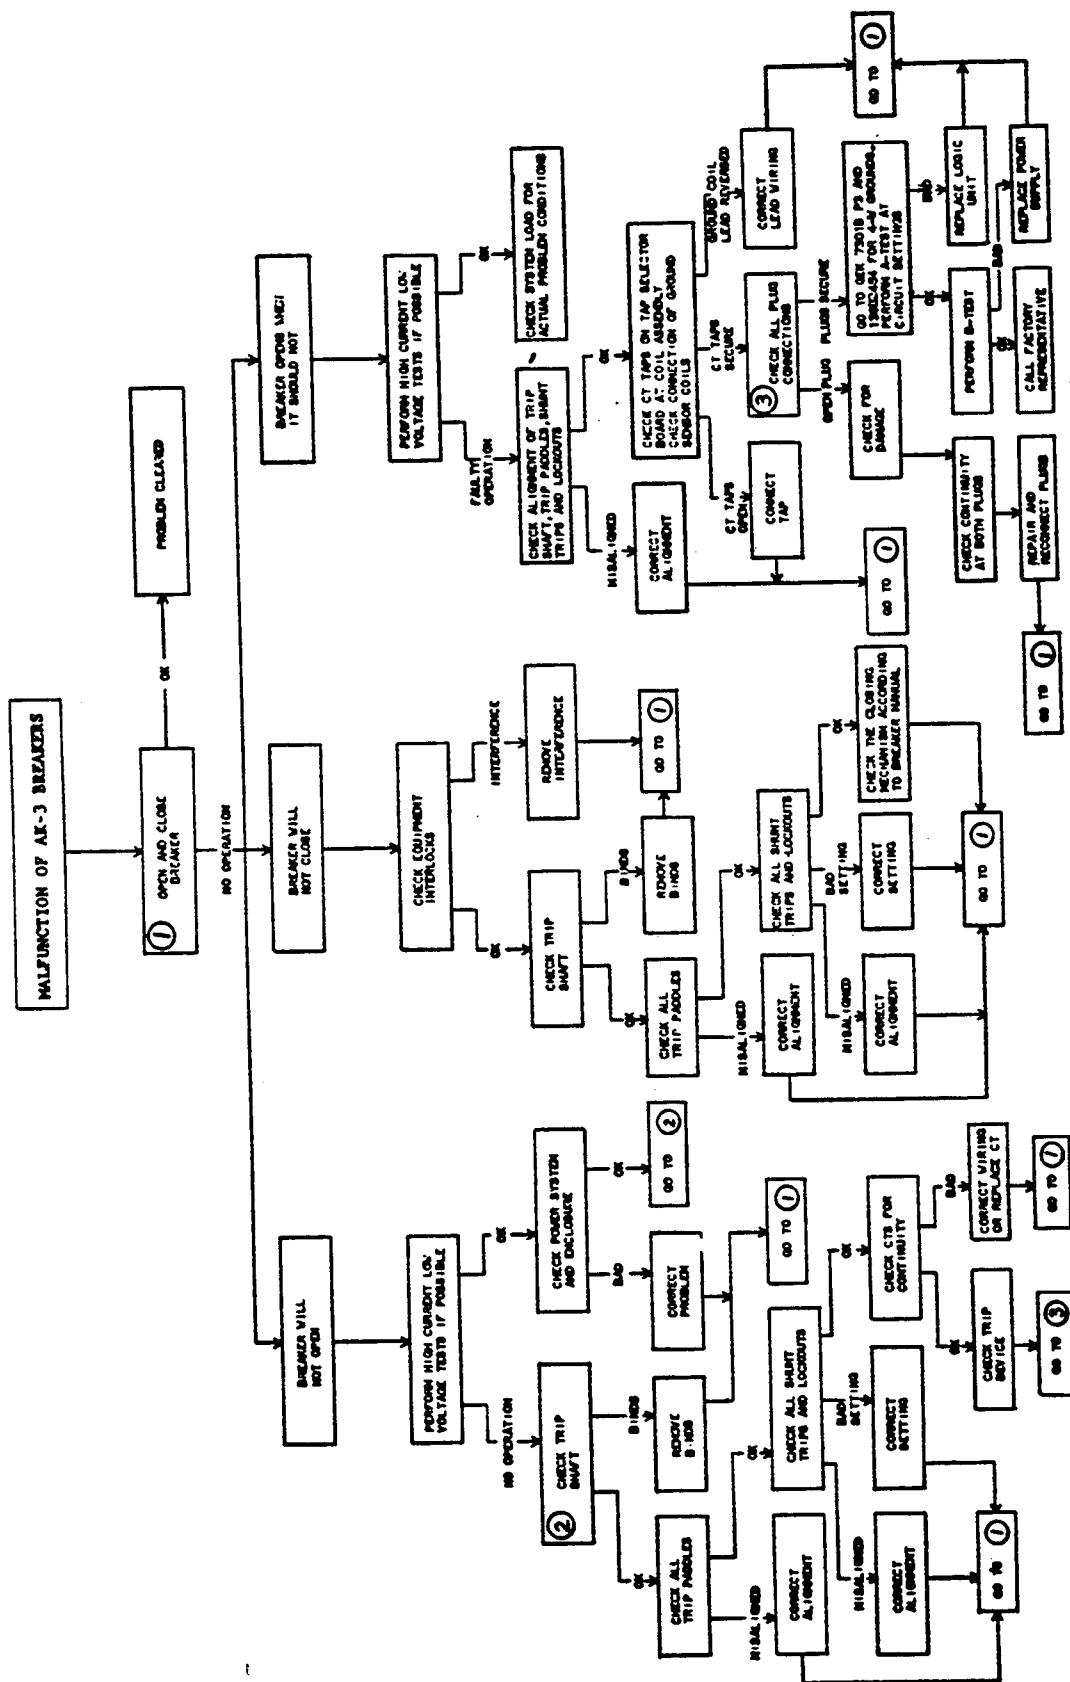

Figure 5. Chart I - Trouble shooting and service diagram.
1. Trouble shooting and service diagram, Figure 5, Chart I, Page 10.